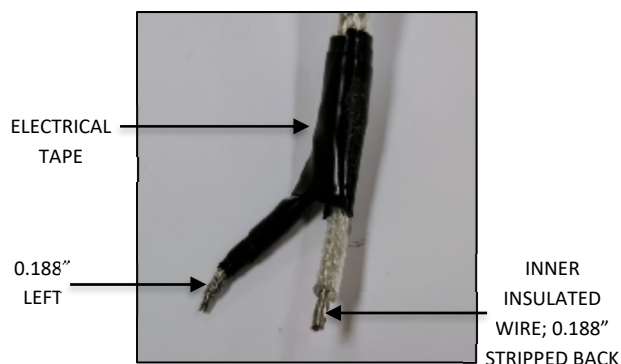
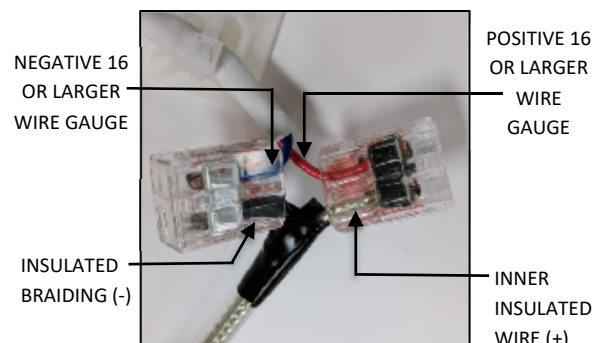

FIG. 37
FIG. 38
- Using electrical tape, insulate the twisted strands leaving 0.188" exposed for connections. Strip off 0.188" of the inner insulation as you normally would for 18AWG stranded core wire as shown in FIG. 37 below. Connect the inner insulated wire (+) to the positive 16 gauge or larger wire ran in step 5 at the hanging bracket and Connect the outer braiding (-) to the negative 16 gauge or larger wire ran in step 5 at the hanging bracket FIG. 38 below.